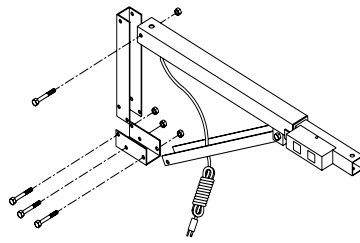

Figure 8 - Mounting Arm Assembly
1. Assemble the back channel, bottom channel, and arm assembly with four bolts (5/16-18 x 2-1/2" long) and nylon locknuts (Refer to Figure 8).